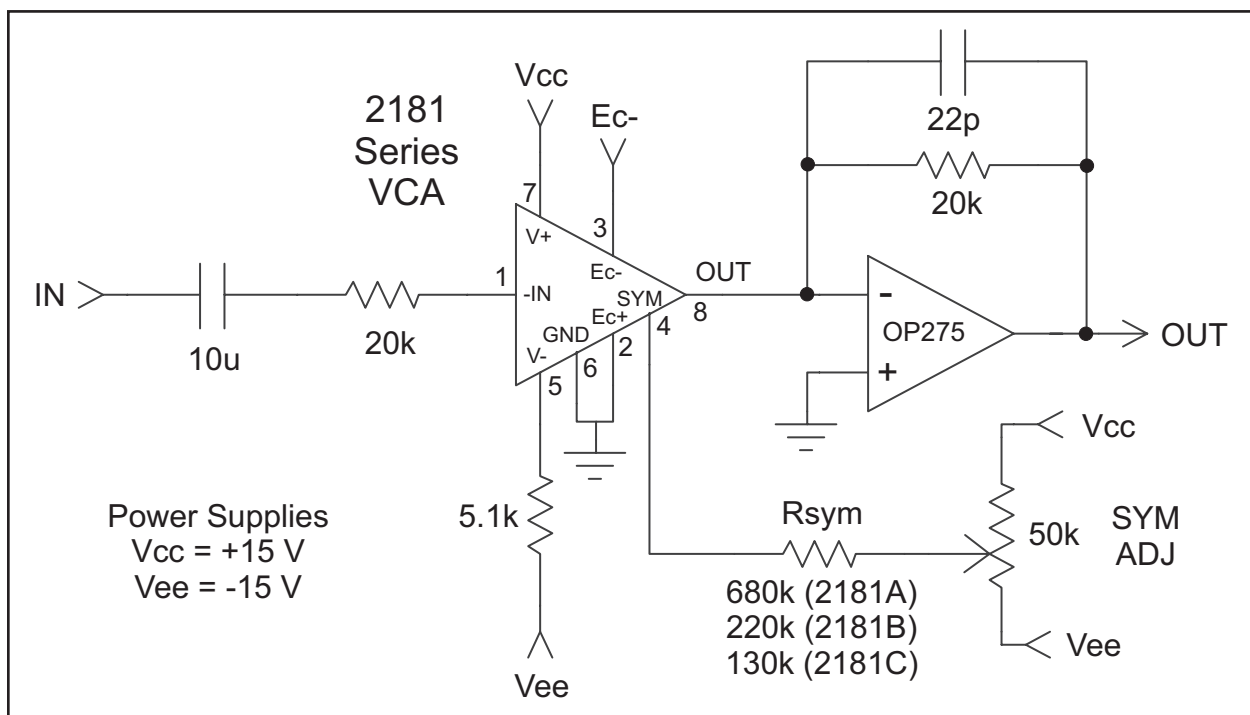
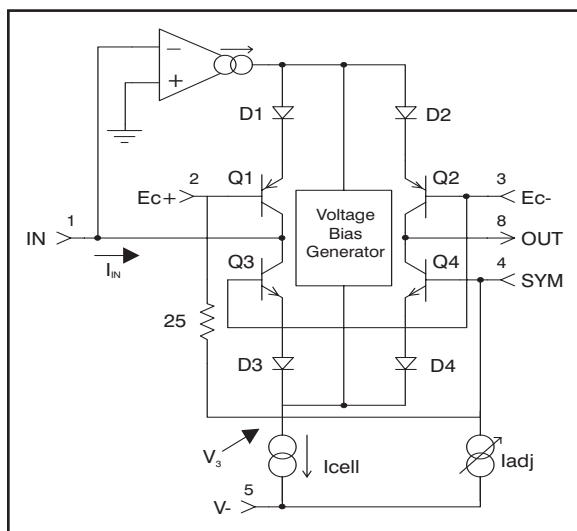
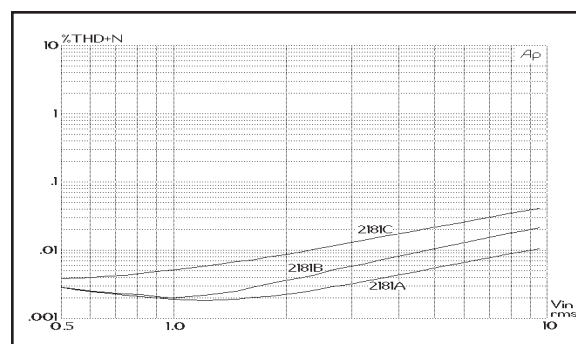

Figure 2. Typical Application Circuit
Figure 5. Simplified Internal Circuit Diagram
Figure 10. 1 kHz THD+Noise Vs. Input Level, 0 dB Gain
2. Unless otherwise noted, T_A = 25°C, V_C = +15V, V_{EE} = -15V. Test circuit is as shown in Figure 2. SYM ADJ is adjusted for minimum THD at 1 V, 1 kHz, E_{C-} = -E_{C+} = 0 V
Figure 5 presents a considerably simplified internal circuit diagram of the IC. The ac input signal current flows in pin1, the input pin. An internal operational transconductance amplifier (OTA) works to maintain pin 1 at a virtual ground potential by driving the emitters of Q1 and (through the Voltage Bias Generator) Q3. Q3/D3 and Q1/D1 act to log the input current, producing a voltage, V3, which represents the bipolar logarithm of the input current. (The voltage at the junction of D1 and D2 is the same as V3, but shifted by four forward V_{be} drops.)
The 2181 current consumption is determined by the resistor between pin 5 (V-) and the negative supply voltage (V_{EE}). Typically, with 15V supplies, the resistor is 5.1 k Ω , which provides approximately 2.4 mA. This current is split into two paths: 570 μ A is used for biasing the IC, and the remainder becomes Icell as shown in Figure 5. Icell is further split in two parts: about 20 μ A biases the core transistors (Q1 through Q4), the rest is available for input and output signal current.
The 2181-Series VCAs are intended to be adjusted for minimum distortion by applying a small variable offset voltage to pin 4, the SYM pin. Note that there is a 25 Ω resistor internal to the 2181 between pin 4 and pin 2. As shown in Figure 2, Page 3, the usual method of applying this offset is to use the internal 25 Ω resistor along with a
The 2181-Series VCA design, fabrication and testing ensure extremely good audio performance when used as recommended. The 2181 maintains low distortion over a wide range of gain, cut and signal levels. Figures 10 through 12 show typical distortion performance for rep-
The Input pin (pin 1) is a virtual ground with negative feedback provided internally (see Figure 5, Page 4). The input resistor (shown as 20 k Ω in Figure 2, Page 3) should be scaled to convert the available ac input voltage to a current within the linear range of the device. Generally, peak input currents should be kept under 1 mA for best distortion performance.
Refer to Figures 10 through 12 to see how distortion varies with signal level for the three parts in the 2181 Series for 0 dB, +15 dB and -15 dB gain. The circuit of Figure 2, Page 3 was used to generate these curves.
A designer may trade off noise for distortion by decreasing the 20 k Ω current-to-voltage converting resistors used at the input and output in Figure 2, Page 3. For every dB these resistor values are de-
The Output pin (pin 8) is intended to be connected to a virtual ground node, so that current flowing in it may be converted to a voltage (see Figures 2 & 15). Choose the external opamp for good audio performance. The feedback resistor should be chosen based on the desired current-to-voltage conversion constant. Since the input resistor determines the voltage-to-current conversion at the input, the familiar ratio of R_f/R_i for an inverting opamp will determine the overall voltage gain when the 2181 is set for 0 dB current gain. Since the VCA performs best at settings near unity gain, use the input and feedback resistors to provide design-center gain or loss, if necessary.
The SYM pin (pin 4) is actually a sort of additional positive-sense control port. It is provided to allow V_{be} mismatches in the core transistors to be adjusted after packaging and installation in the circuit board. It should only be used for this purpose. Connect pin 4 only to a high-impedance source as shown in Figures 2 and 15.